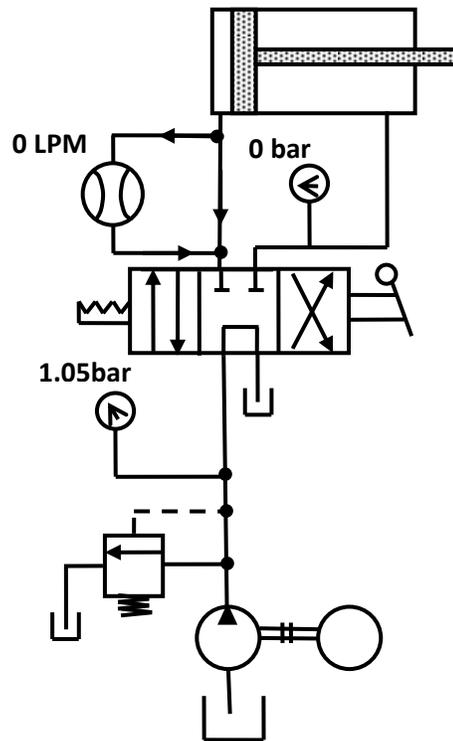

Figure 1.20 Application of 4/3-way valve – tandem neutral.
- 4. Application of 4/3 DCV (tandem neutral) for controlling a double-acting cylinder:** Figure 1.20 shows it in a simple cylinder circuit. The pump flow is allowed to flow back to the tank through the DCV when it is in the neutral. This is a very desirable situation because only pressure in the pump line is due to the flow resistance of the lines and DCV. This keeps the pressure low when the valve is in the neutral. In this situation, the system is said to be unloaded because the power consumption is reduced. This wastes much less energy than does a closed central neutral that forces the fluid over the pressure relief valve at a high pressure. The cylinder is held in position with a tandem neutral because the outlet port is blocked.